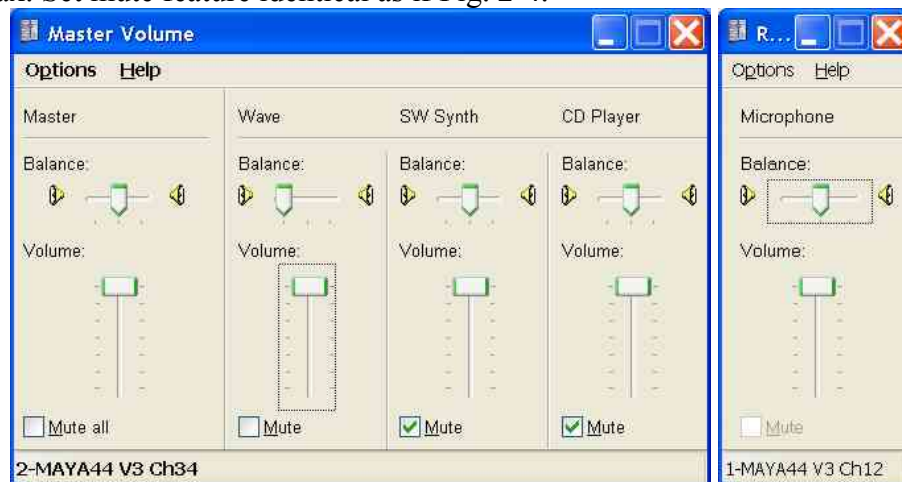

Fig. 2-4 Volume Control & Mute
- Click “Volume” icons for “Sound Playback” and “Sound Recording”. Set the volume to Max. Set mute feature identical as if Fig. 2-4.